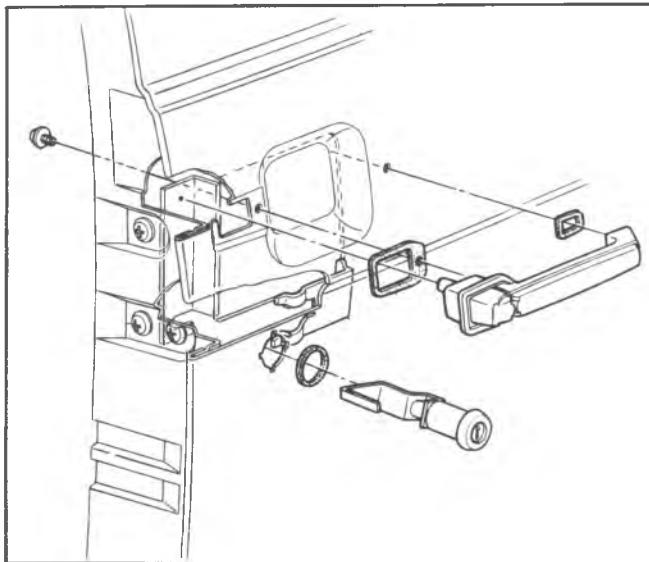

Fig. 35G—Outside Handle and Lock Cylinder
2. Remove door handle retaining screws, handle and gaskets. See figure 35G.